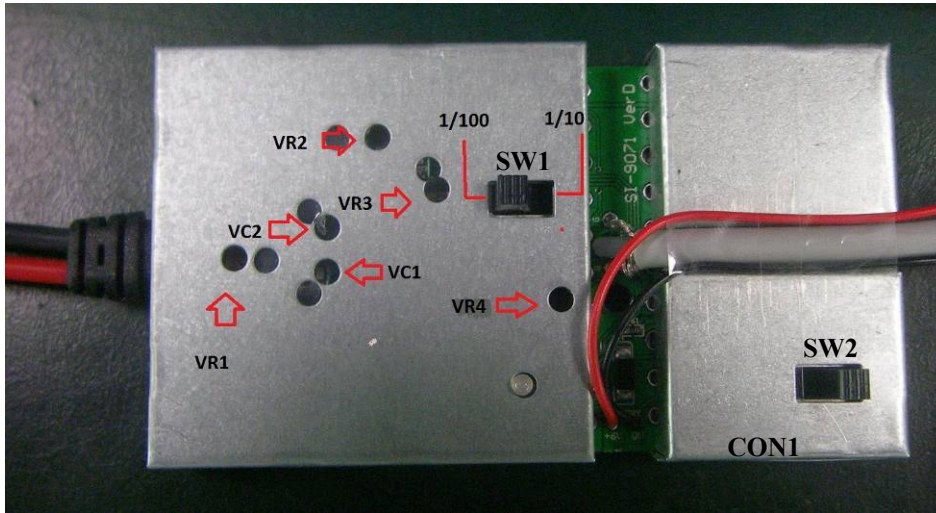

Fig. 7
2. Explanation of adjustment point. Please refer to Fig. 7.